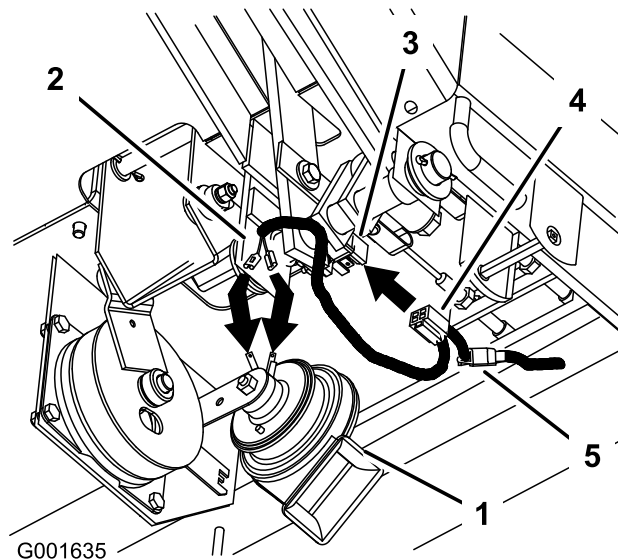

Figure 19
1. Under the floor board, connect the two quick connect terminals to the horn (Figure 19).
2. Connect the brake switch connector to the new brake switch (Figure 19).
3. Connect the new harness to the old brake switch connector (Figure 19).